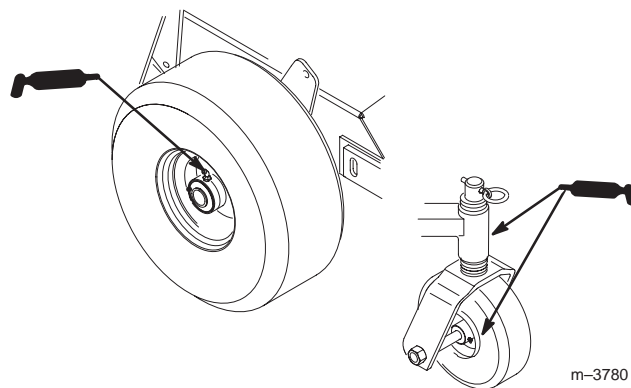

Figure 33
1. Lubricate the drive and caster wheel bearings and front spindles (Fig. 33) after every 8 operating hours.